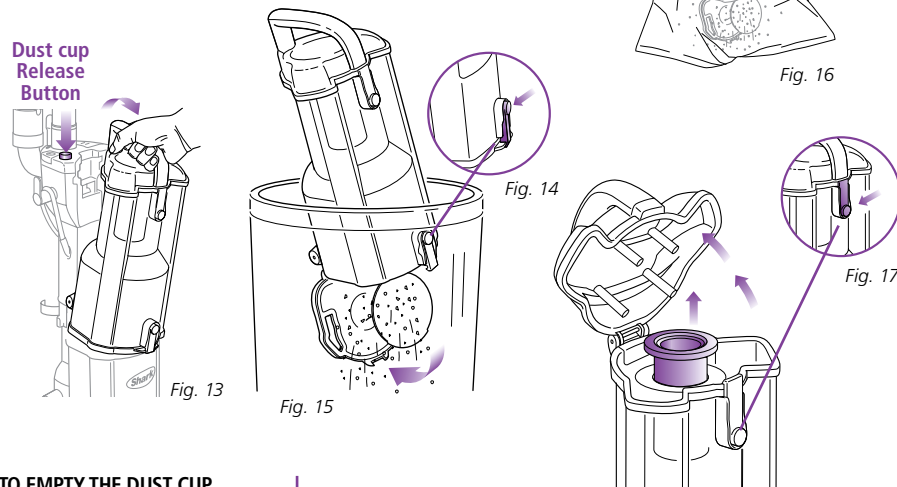

Fig. 16
- 4 **Option B:** For Allergy Sufferers: Wrap a trash bag around the Dust Cup Assembly leaving space at the bottom for the door to swing open. (Fig. 16) Locate the Dust Cup Door release button within the trash bag and press to release as you shake the dust cup to empty dust and debris.